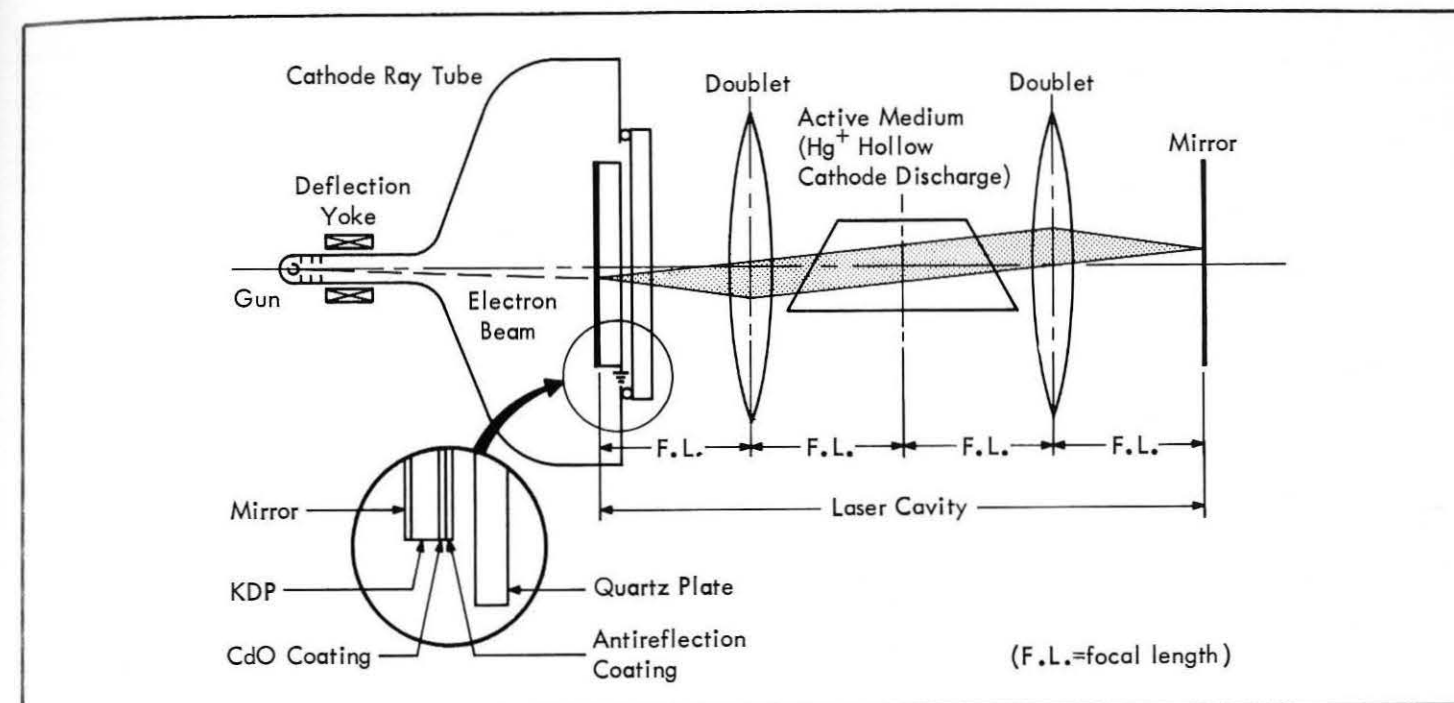

FIGURE 1
The effort in the area of light deflection has culminated with a device which we call the "Scanlaser." Fig. 1, conveys schematically its mode of operation. Briefly, it consists of two parts; (1) a highly (transversely) degenerate multimode laser resonator and (2) an electronically controlled, electro-optic mode selector. The resonator is potentially capable of lasing in a large number of spatially distinct modes. The mode selector selects only one or a few of these modes at the time. This selection is accomplished by means of a deflectable electron beam and an electro-optical crystal. The charge deposit-